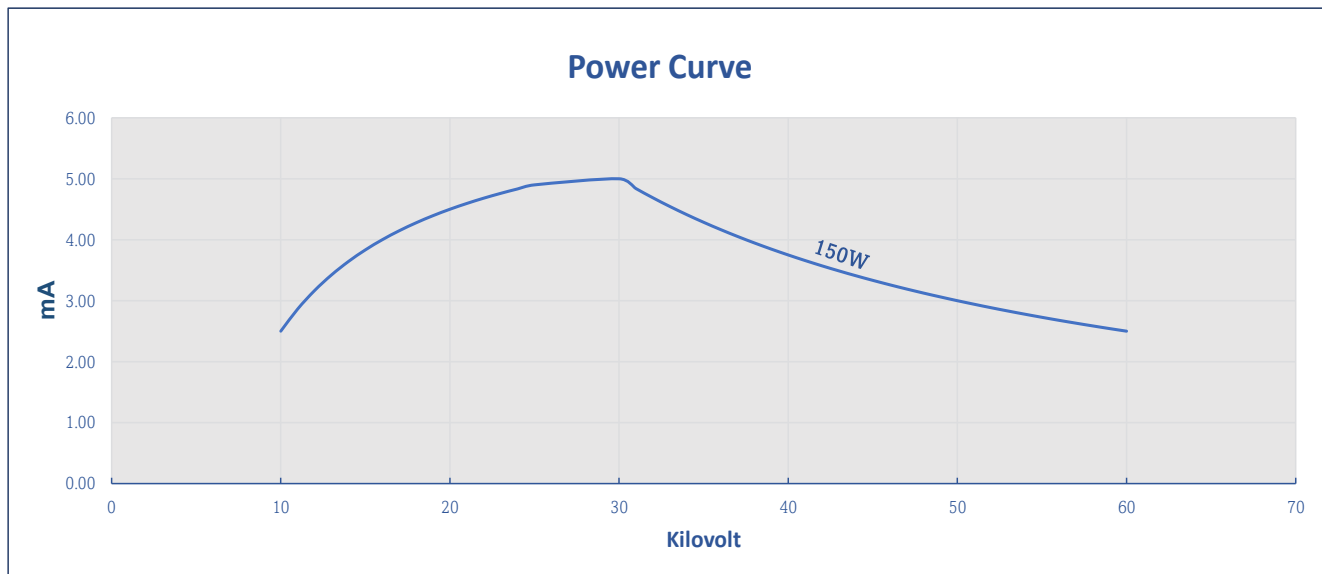

Figure 2 - Voltage vs. Current and Power
12. The tube power levels are dependent on voltage. The tube should be operated according to the operational chart in figure 2. **Caution: Short term inputs of more than 150 watts are not allowed. This will cause permanent damage to the window.**